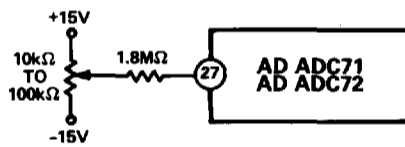

Figure 6. Offset Adjustment Circuit
The zero adjust circuit consists of a 100ppm/°C potentiometer connected across  $\pm V_S$  with its slider connected through a 1.8M $\Omega$  resistor to Comparator Input pin 27 for all ranges. As shown in Figure 6, the tolerance of this fixed resistor is not critical, and a carbon composition type is generally adequate. Using a carbon composition resistor having a -1200ppm/°C tempco contributes a worst-case offset tempco of  $32\text{LSB}_{14} \times 61\text{ppm/LSB}_{14} \times 1200\text{ppm/}^\circ\text{C} = 2.3\text{ppm/}^\circ\text{C}$  of FSR, if the OFFSET ADJ potentiometer is set at either end of its adjustment range. Since the maximum offset adjustment required is typically no more than  $\pm 16\text{LSB}_{14}$ , use of a carbon composition offset summing resistor typically contributes no more than 1ppm/°C of FSR offset tempco.
**Short Cycle Input:** A Short Cycle Input, pin 32, permits the timing cycle shown in Figure 8 to be terminated after any number of desired bits has been converted, permitting somewhat shorter conversion times in applications not requiring full 16-bit resolution. When 10-bit resolution is desired, pin 32 is connected to Bit 11 output pin 11. The conversion cycle then terminates and the STATUS flag resets after the Bit 10 decision ( $t_{10} + 40\text{ns}$  in timing diagram of Figure 6). Short cycle connections and associated maximum 8-, 10-, 12-, 13-, 14-, and 15-bit conversion times are summarized in Table I.